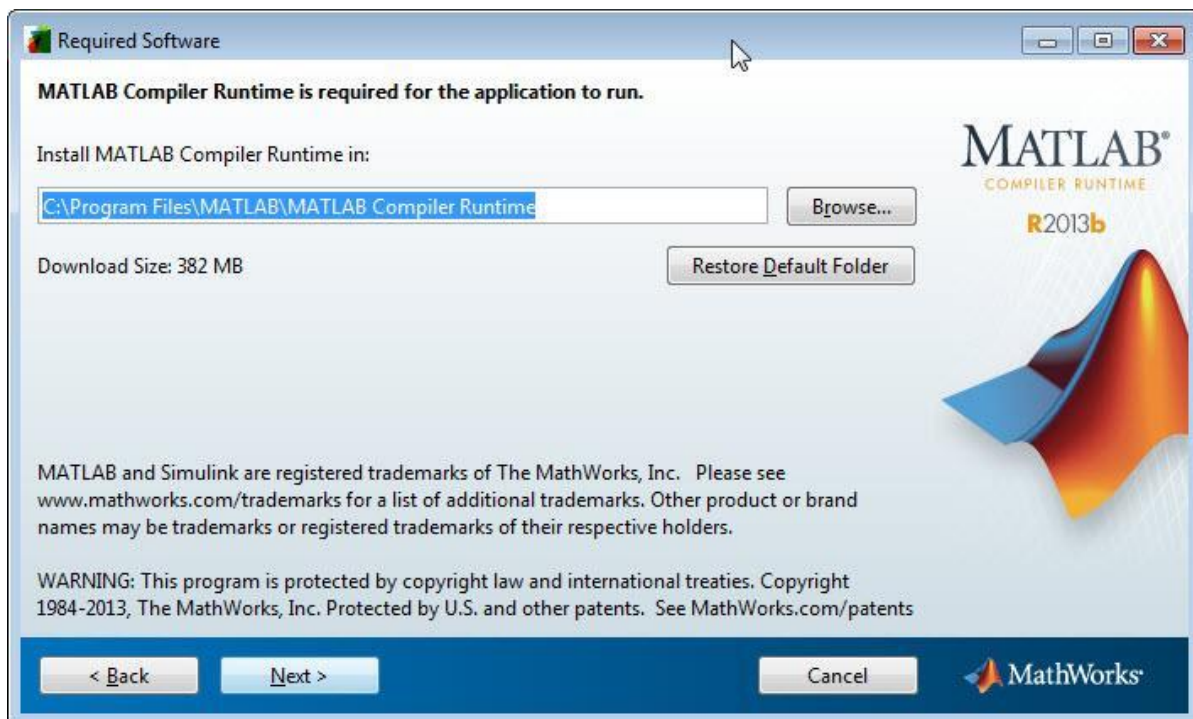

Figure 2-5 Required Software Dialog: Default MCR Location .
1. The **Required Software** dialog (Figure 2-5) starts the MATLAB MCR installation if the MCR is not found on your system.